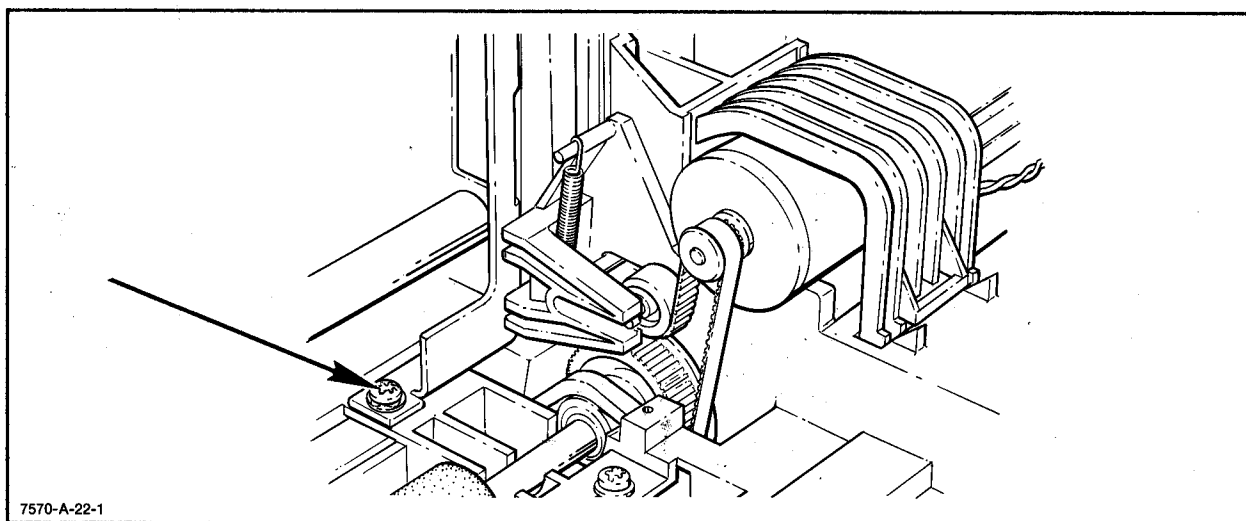

Figure 6-38. Slider Rod Restraint
- d. Remove the slider rod restraint. See Figure 6-38.